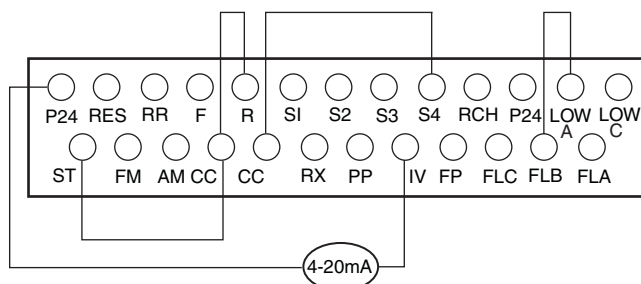

Fig. 136 — Power Exhaust Variable Frequency Drive Terminal Block
3. Install a jumper across S2-CC (see Fig. 136 for power exhaust VFD terminal board connections).
1. Drive enable jumper is installed from terminals ST-CC (factory supplied) (see Fig. 136).